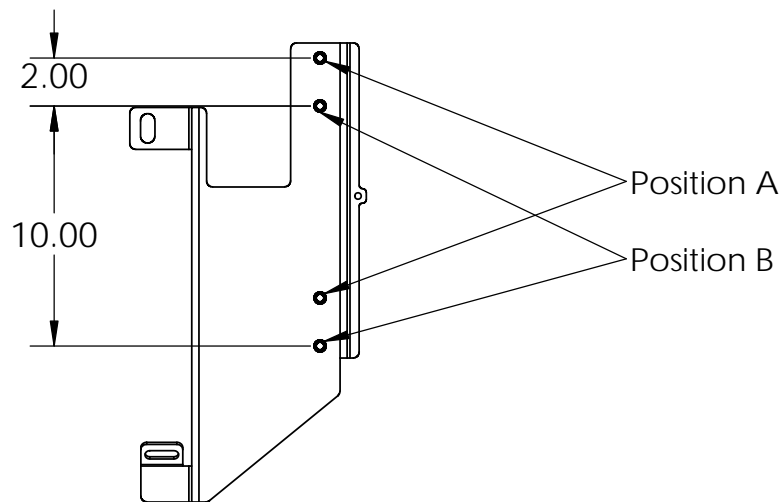

Figure 2.
5. Use Position A or Position B to mount the Column depending on how back you want the console box/work station (See Figure 2.)